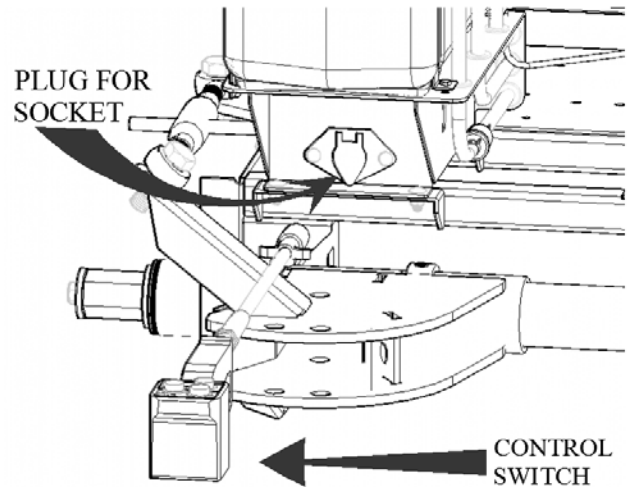
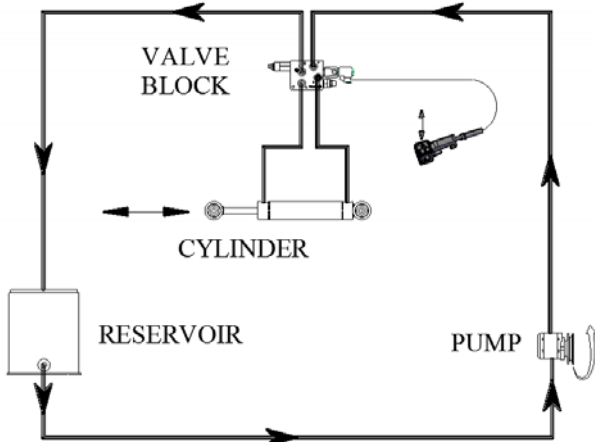

Figure 3. Hand-held Control
Figure 6. Hydraulic Circuit
- The operator controls the lifting, lowering, and aeration from a hand-held control box with three switches (Figure 3).
When the engine is on, the pump is continuously circulating hydraulic oil from the reservoir, to the pump, to the valve block, and back to the reservoir. When the operator presses the momentary switch for the raise or lower function on the hand-held controller (Figure 3) the fluid entering the valve block is diverted to the cylinder causing the machine to raise or lower. See Figures 6 and 7.
2. Tow machine to starting point on worksite and lower using hand-held control switch, Figure 3.